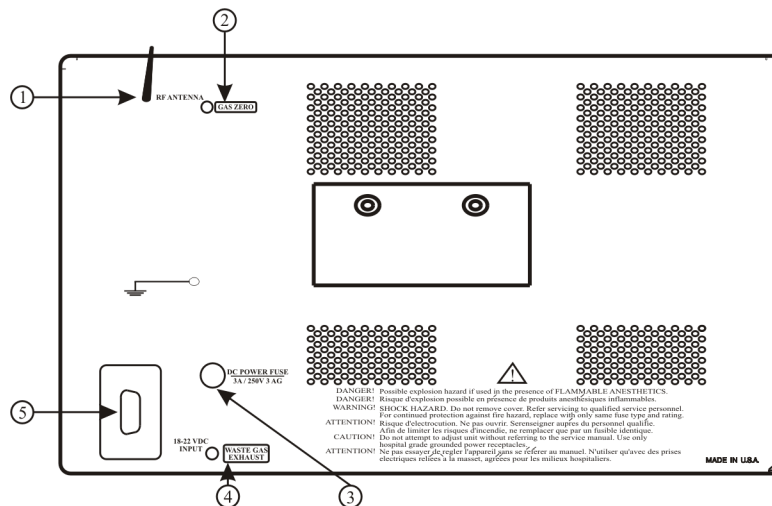
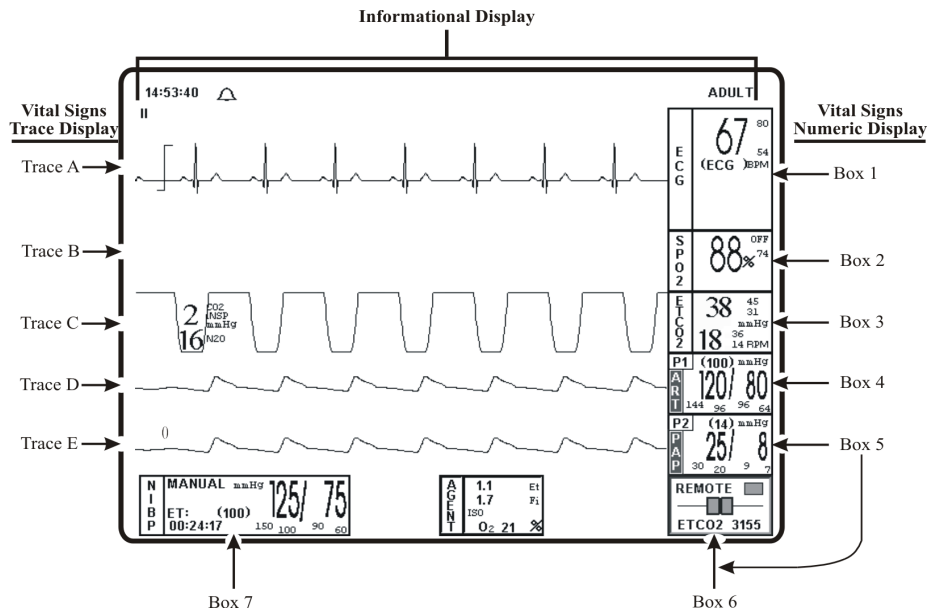

Figure 1-4. The Back Panel
Figure 1-5. The Normal Screen
1.2.3 Back Panel Connections and Inputs. (See **Figure 1-4**) The following is a description of the Back Panel Connections and Inputs:
- a. **RF ANTENNA. (Item 1)** The antenna that receives the information from the 3150(M) monitor.
1.3 Display. The **3155A/3155MVS Monitor** display screen (See **Figure 1-5**) displays three groups of data: 1) the Informational Display, 2) the Vital Signs Trace Display and 3) the Vital Signs Numeric Display. The entire display screen, with its three different display groups, is called the “**Normal Screen.**” The three displays are described below.